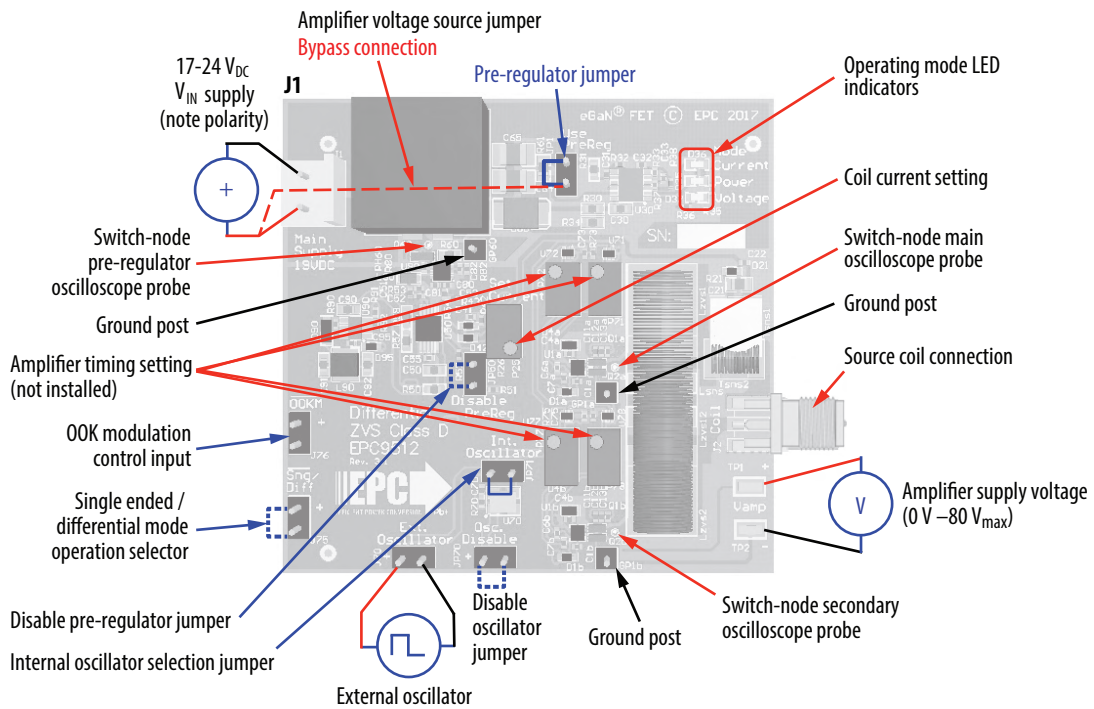

Figure 5: Proper connection and measurement setup for the amplifier board.
2. With power off, connect the main input power supply bus to J1 as shown in figure 5. Note the polarity of the supply connector.
2. With power off, connect the main input power supply bus +V_{IN} to the bottom pin of JP1 and the ground to the ground connection J1 as shown in figure 5.